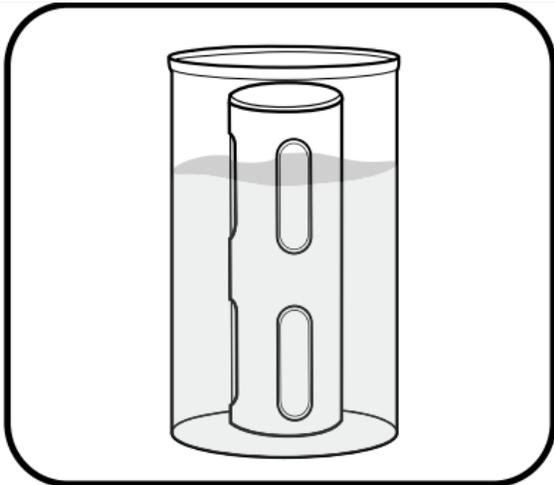

Figure 22. Soak to remove heavier biofouling [Source: [ER \[02\]](#)]
**STEP 2.1** | If the guard has a thick layer of filaments or barnacles, soak it for 10-15 minutes in a solution of clean water and a few drops of the same dishwashing liquid that contains a degreaser (**Figure 22**).